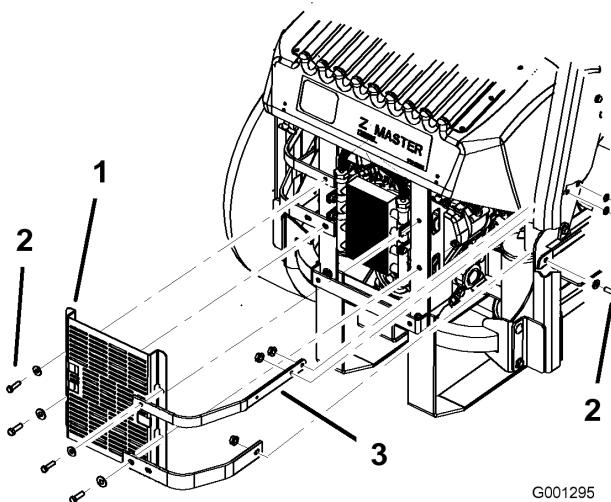

Figure 56
3. Remove the 4 bolts holding the oil cooler shield to the rear frame (Figure 56).
4. Remove the 3 bolts holding the engine straps to the side of the machine (Figure 56).
12. Install the oil cooler shield and engine straps to the rear frame with the 4 bolts previously removed (Figure 56).
13. Install the engine straps to the side of the machine (Figure 56).